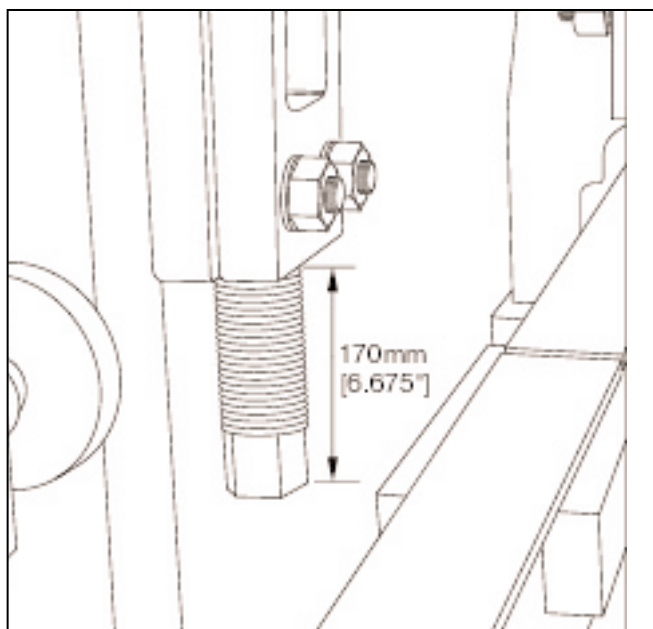

Figure 4.64 UPPER HEIGHT STOPS.
4.4.7 Adjust the upper height stops (**part #047356**) so that **170mm [6.675"]** extend past the bottom of the castings (figure 4.64).